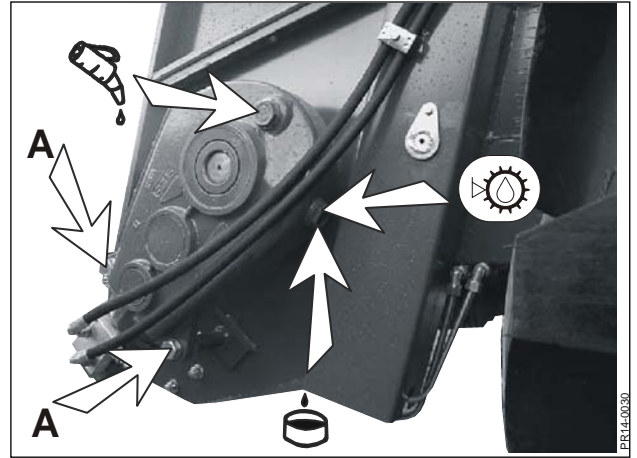

Fig. 6.3
- Fig. 6.3** Oil content:  **4.3 litres**